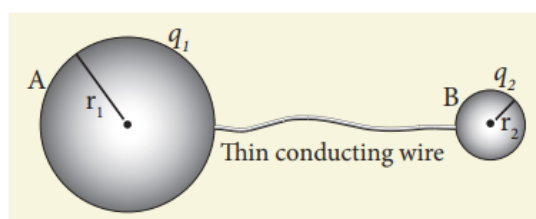

Figure 1.60 Two conductors are connected through conducting wire
- Consider two conducting spheres A and B of radii r_1 and r_2 respectively connected to each other by a thin conducting wire as shown in the Figure 1.60.